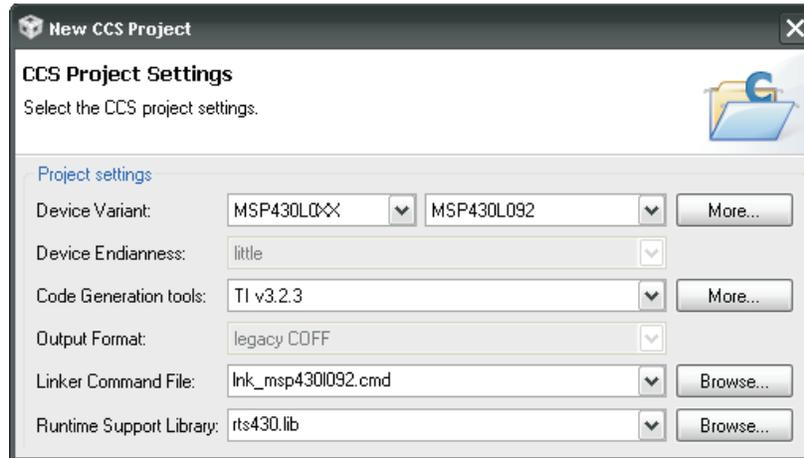

Figure 14. MSP430L092 Project Selection in Code Composer Studio
2. Select MSP430L092 from the drop-down menu in the MSP430 device selection screen. The device family filter can be used to shorten the list by selecting MSP430L0XX in the filter drop-down menu as shown in Figure 14.